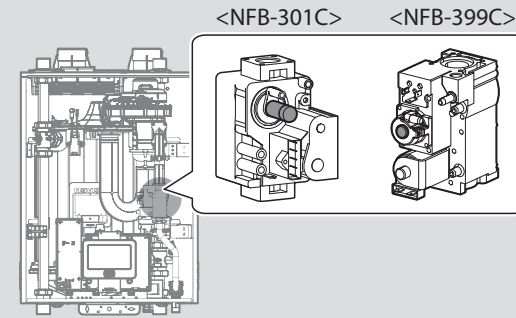

Figure 8. Set Screw Location
- Activate multiple zones and set the boiler to operate at 1Step MIN mode. Measure the CO₂ value at low fire. If the CO₂ value is not within 0.5% of the value listed in Table 2, the gas valve set screw will need to be adjusted. If adjustment is necessary, locate the set screw as shown in Figure 8. Using a Allen or Star Wrench, turn the set screw no more than 1/4 turn clockwise to raise or counterclockwise to lower the CO₂ value.